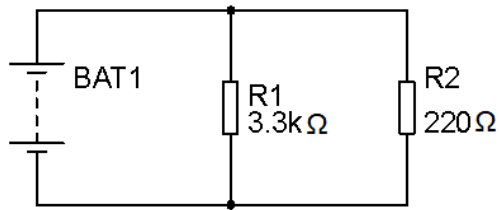

Figure 5 - Circuit 2
b) Find the total resistance of the circuit shown in Figure 5 below. Show all your working.